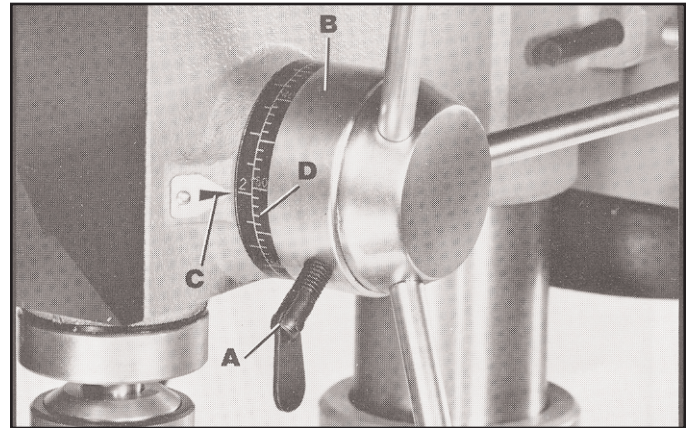

Fig. 23
1. Loosen lock screw (A) Fig. 23, and rotate housing (B) until the pointer (C) lines up with the desired depth indicated on scale (D). Then tighten lock screw (A).
2. All holes will then be drilled to the exact depth as indicated on scale (D) Fig. 23. NOTE: Scale (D) is calibrated in both inches and metric.